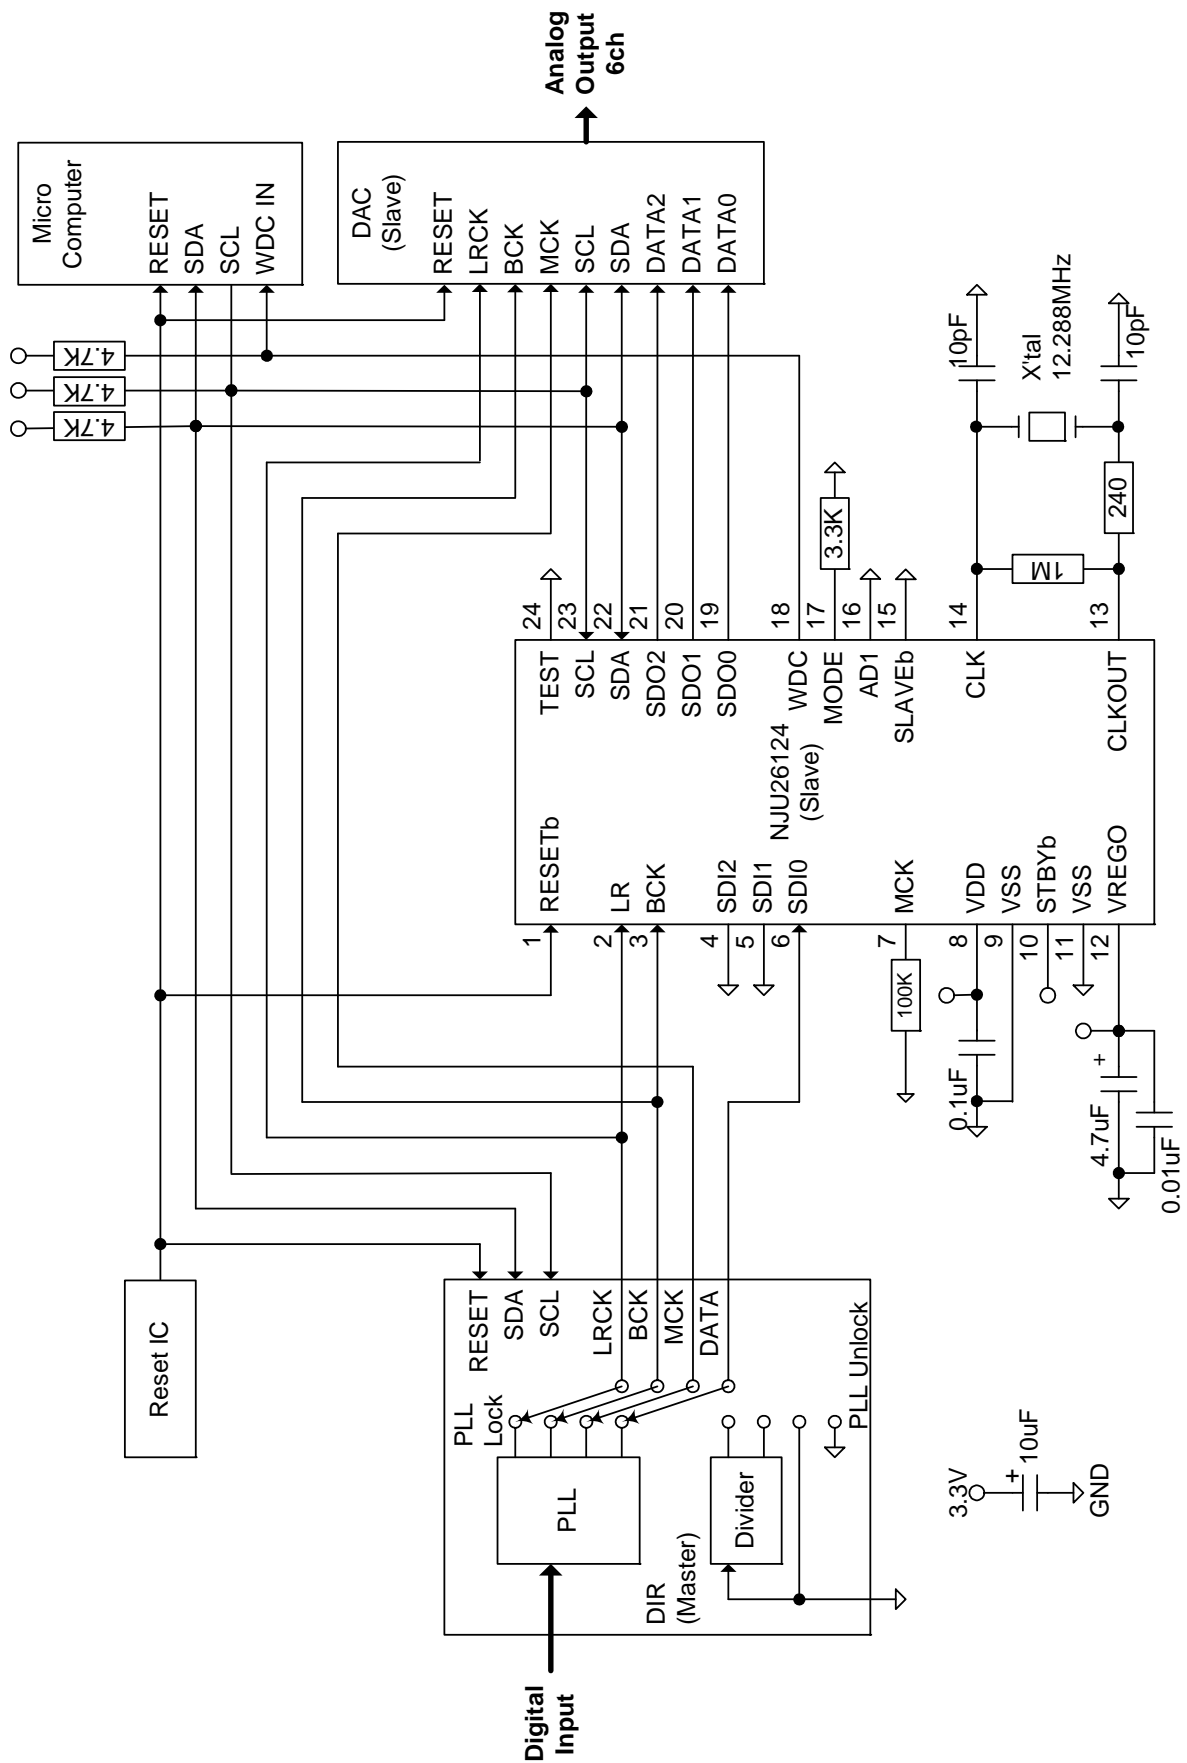

Figure 3. Application circuit 1: NJU26124 with DIR and DAC (I²C Bus)
Note3: The ADCs and DACs operate in Slave mode in the Figure 3 to Figure 5.
The Figure 3 shows the circuit with DIR, DSP and DAC.
- 1) The DSP power supply is 3.3V. The input terminals accept 5V signal under the condition that the 3.3V is supplied to the DSP. The Figure 3 to Figure 6 circuits assumes the ICs that are connected to the DSP employ the 3.3V power supply. So the DSP can connect to the ICs directly.